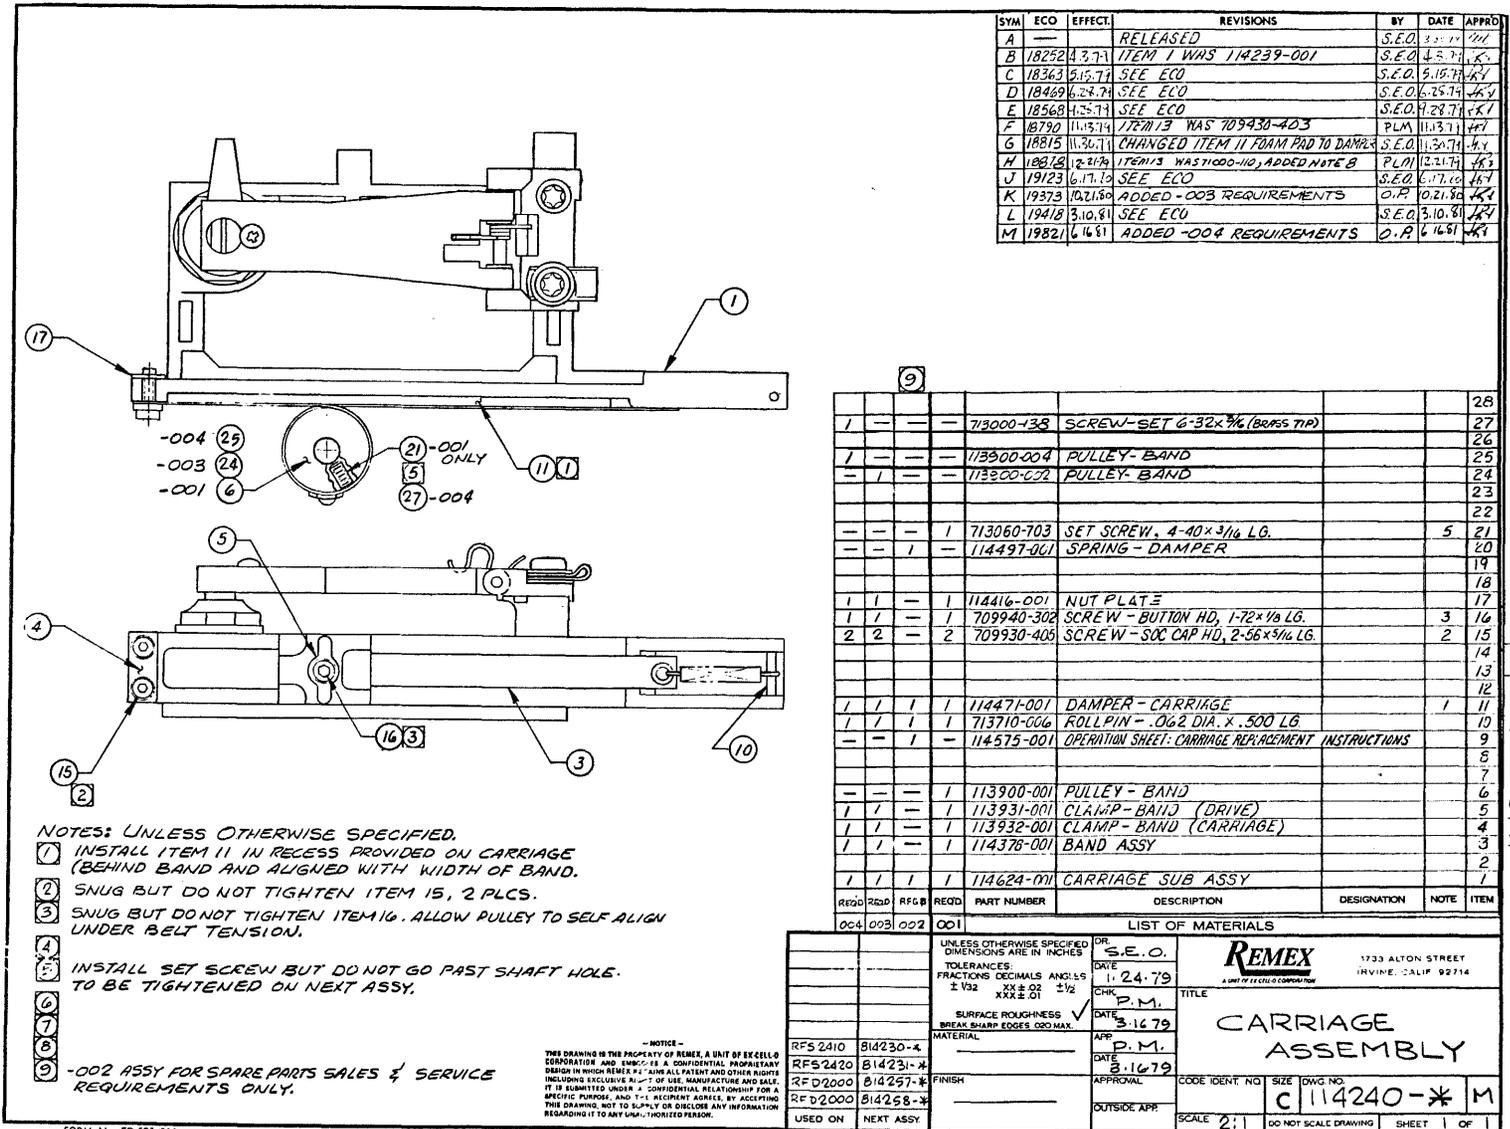

Figure 6-1. Carriage Assembly 114240, RFS2400.
See Figures 6-1 and 7-1 for part and hardware callouts. Figure 6-1 applies to the RFS2400 carriage assembly.
- d. Remove the band clamp (item 5, Figure 6-1) from the pulley.
- e. Unhook the band spring from the roll pin (Item 10, Figure 6-1). This allows the band assembly to be loose around the pulley.
- i. On a bench, carefully remove the two screws, nut plate and band clamp (Items 15, 17, 4, Figure 6-1).
- m. Make a loop in the band and line up the band clamp screw (item 16, Figure 6-1) with the hole in band assembly and install the band clamp (item 5, Figure 6-1). Tighten the screw only lightly to allow pulley to self align under belt tension.
- n. Install the band spring on the roll pin (Item 10, Figure 6-1).
- p. Move the carriage assembly back and forth on the guide rods to make sure the band moves without binding. If binding occurs, loosen the band clamp screw (Item 16, Figure 6-1) and if necessary, the two screws (Item 15, Figure 6-1) which hold the band assembly to the carriage. Move the carriage back and forth and align the band assembly until no binding occurs. Tighten all screws.